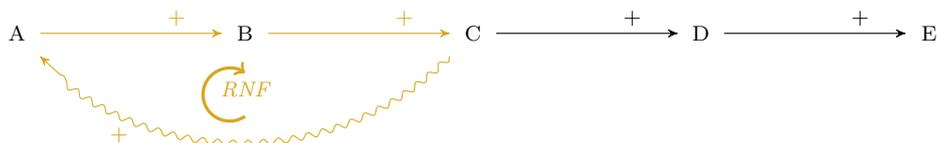

FIGURE 5 Generic Qualitative Simulation (QSM)
- Qualitative simulation — QSM_[M] (Figure 5)